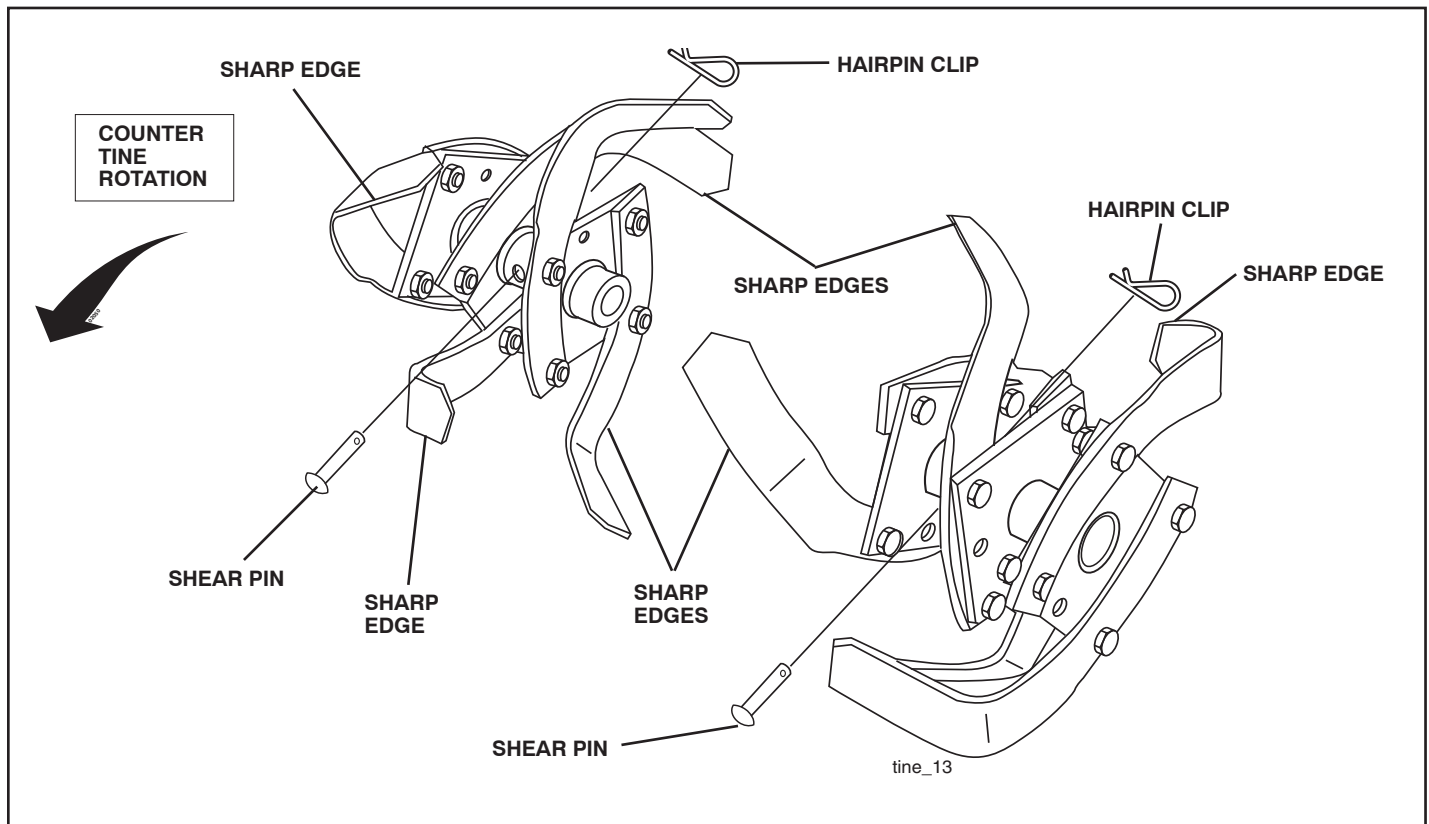

Fig. 25
- New tines should be assembled as shown in Fig. 25. Sharpened tine edges will rotate rearward from above.